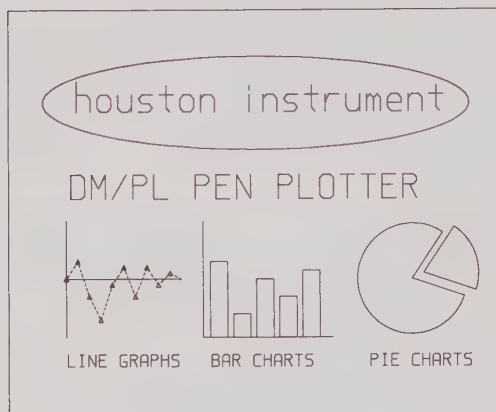

FIGURE 2-10
11. Note that the test plot is scaled as shown in Figure 2-10. The important thing to note is that the entire plot has been scaled approximately 50%. The aspect is correct since the proportions of the original plot were used by the plotter to calculate the correct aspect ratio.